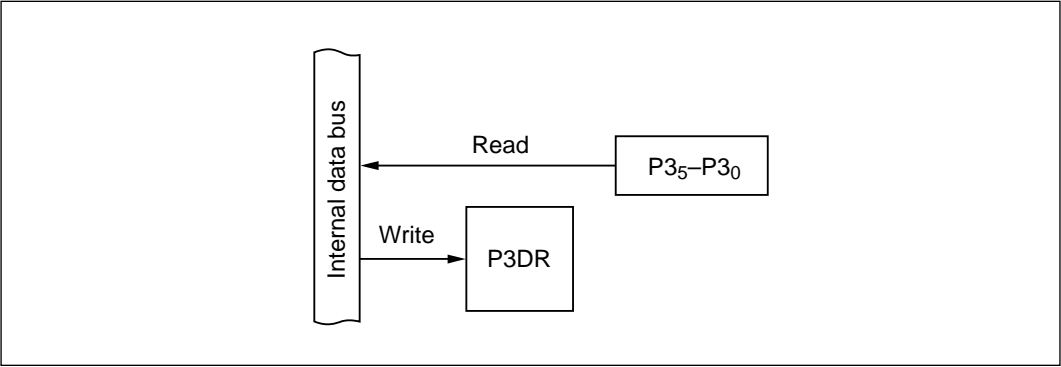

Figure 9-17 Input Port (Modes 1 to 7)
(1) Input Port (Modes 1 to 7): Figure 9-17 shows a block diagram illustrating the general-purpose input function. Table 9-11 indicates register read/write data. Values written in the port 3 data register (P3DR) have no effect on general-purpose input lines. When read, P3DR returns the value at the pin.